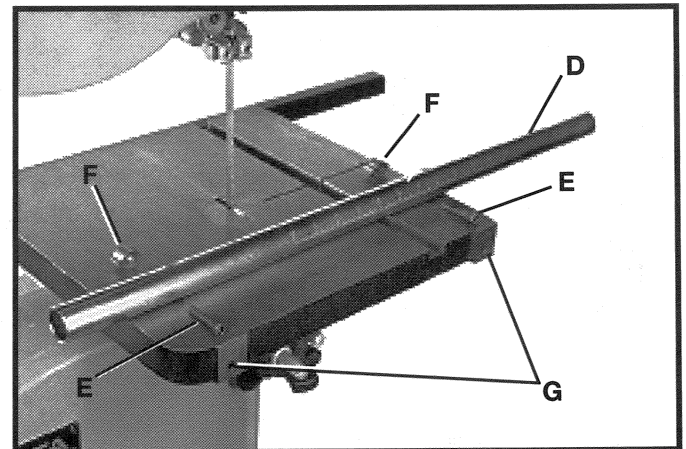

Fig. 3
2. Use the 1/4-28 x 1-1/4" hex socket head screws (E) Fig. 3 and spacers (F) to attach the front guide rail (D) to the band saw table at (G) Fig. 3. Position spacers between the table and the guide rail.